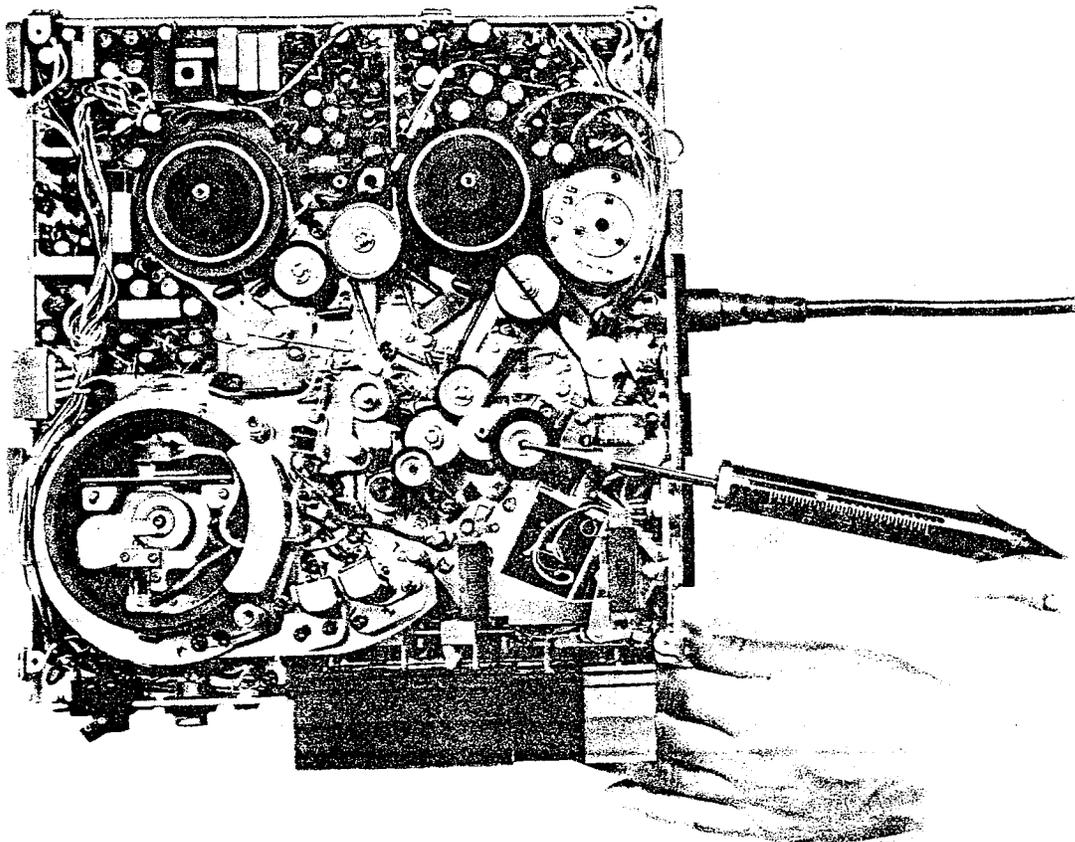

Fig. 3 Pinch Roller Pressure Measurement
**(1) Main Pinch Roller Pressure Adjustment**
- (c) At playback mode, measure Pinch Roller Pressure by connecting a 0 to 2 Kg. Spring Gauge to the Pinch Roller Shaft as shown in Fig. 3. Read the value on the Spring Gauge the moment the pinch roller revolutions stop. Specified value is 1.3 to 1.5 grams.